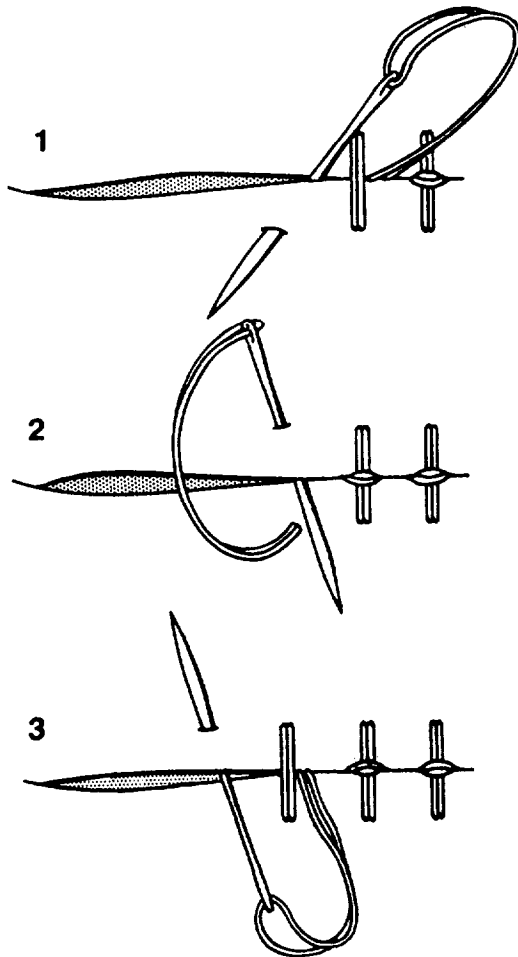

Figure 3-37.—Herringbone stitch.
- **Herringbone stitch:** The herringbone stitch is used to mend tears in heavy or painted canvas. Figure 3-37 shows the steps in making this stitch.